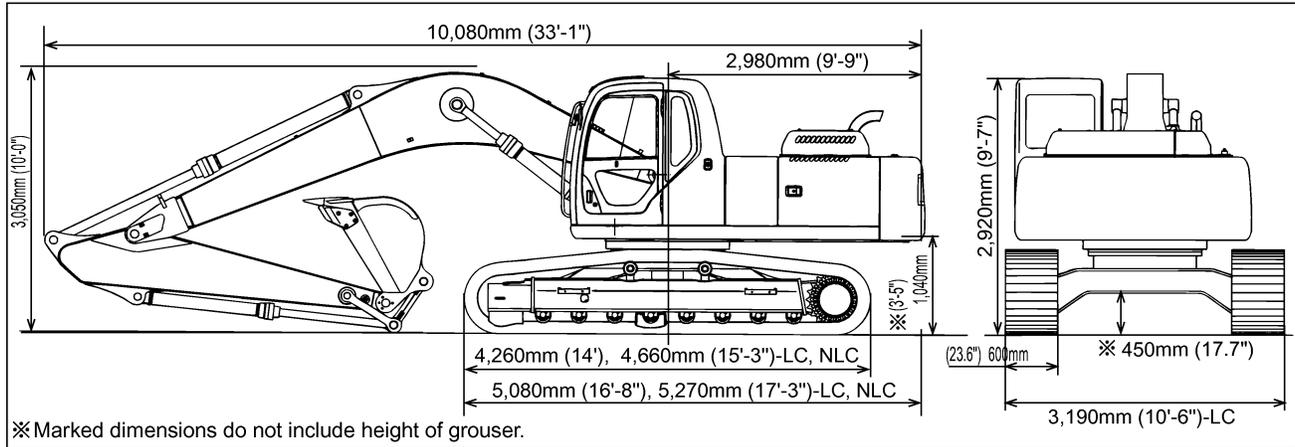

FIGURE 5.12A
2. SK250(LC)-VI - Figure 5-12A & 5-12B
Refer to Figure 5.12A and 5.12B for reference in regards to the machine basic dimensions, as manufactured, with standard attachments: